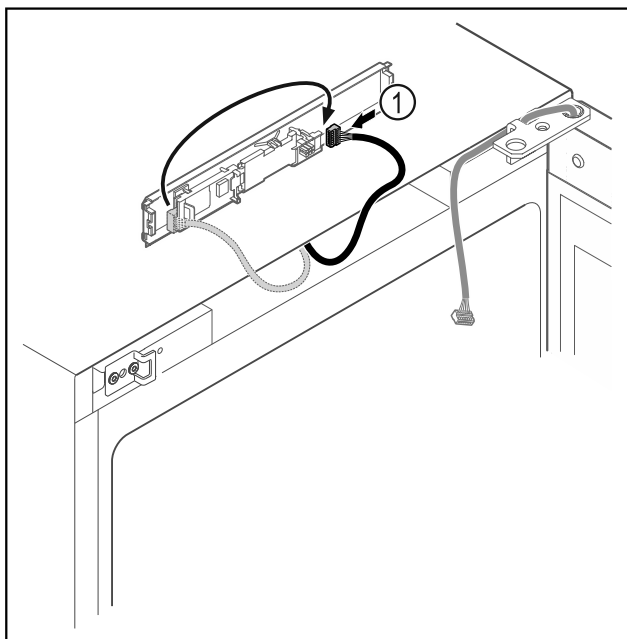

Fig. 8
- Connect the plug Fig. 8 (1) to the circuit board.